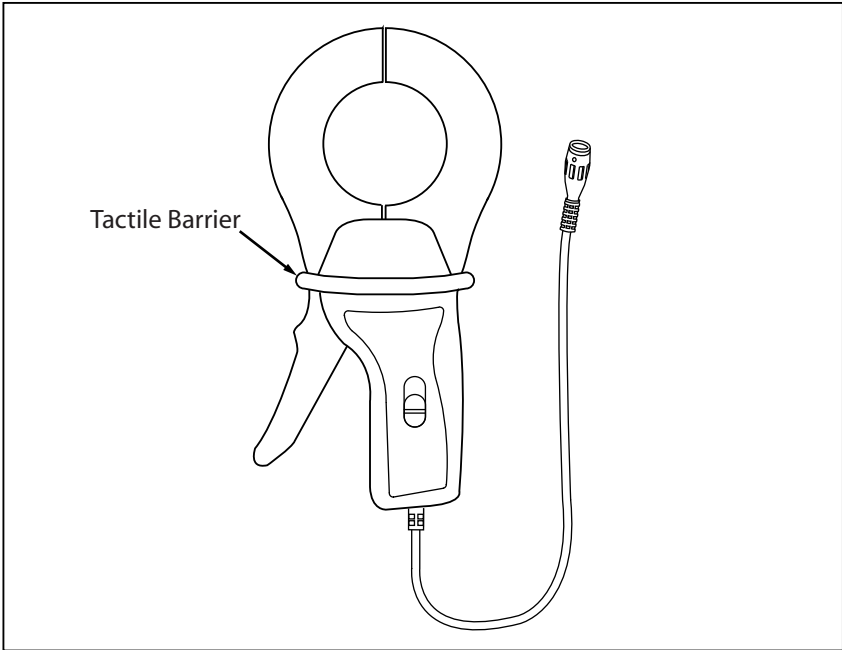

Figure 1. i1000s AC Current Probe
The Fluke i1000s is a clamp-on ac current probe designed to expand oscilloscope applications in industrial and power environments. The Current Probe (shown in Figure 1) provides the following features:
- **Do not hold the clamp anywhere beyond the tactile barrier. See Figure 1.**